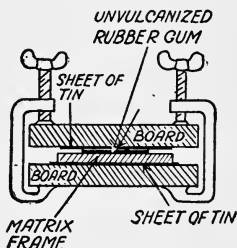

FIG. 76. THE MATRIX WITH THE RUBBER GUM IN PLACE READY TO VULCANIZE
**Vulcanizing the Rubber.**—Cut a piece of the unvulcanized gum rubber  $\frac{1}{4}$  inch wider and longer all round than the impression of the type; peel the strip of muslin from the strip of rubber gum and lay it on the matrix. Put one of the boards on top of the rubber and the other on the bottom of the matrix and screw them together tight with the iron clamps as shown in Fig. 76.